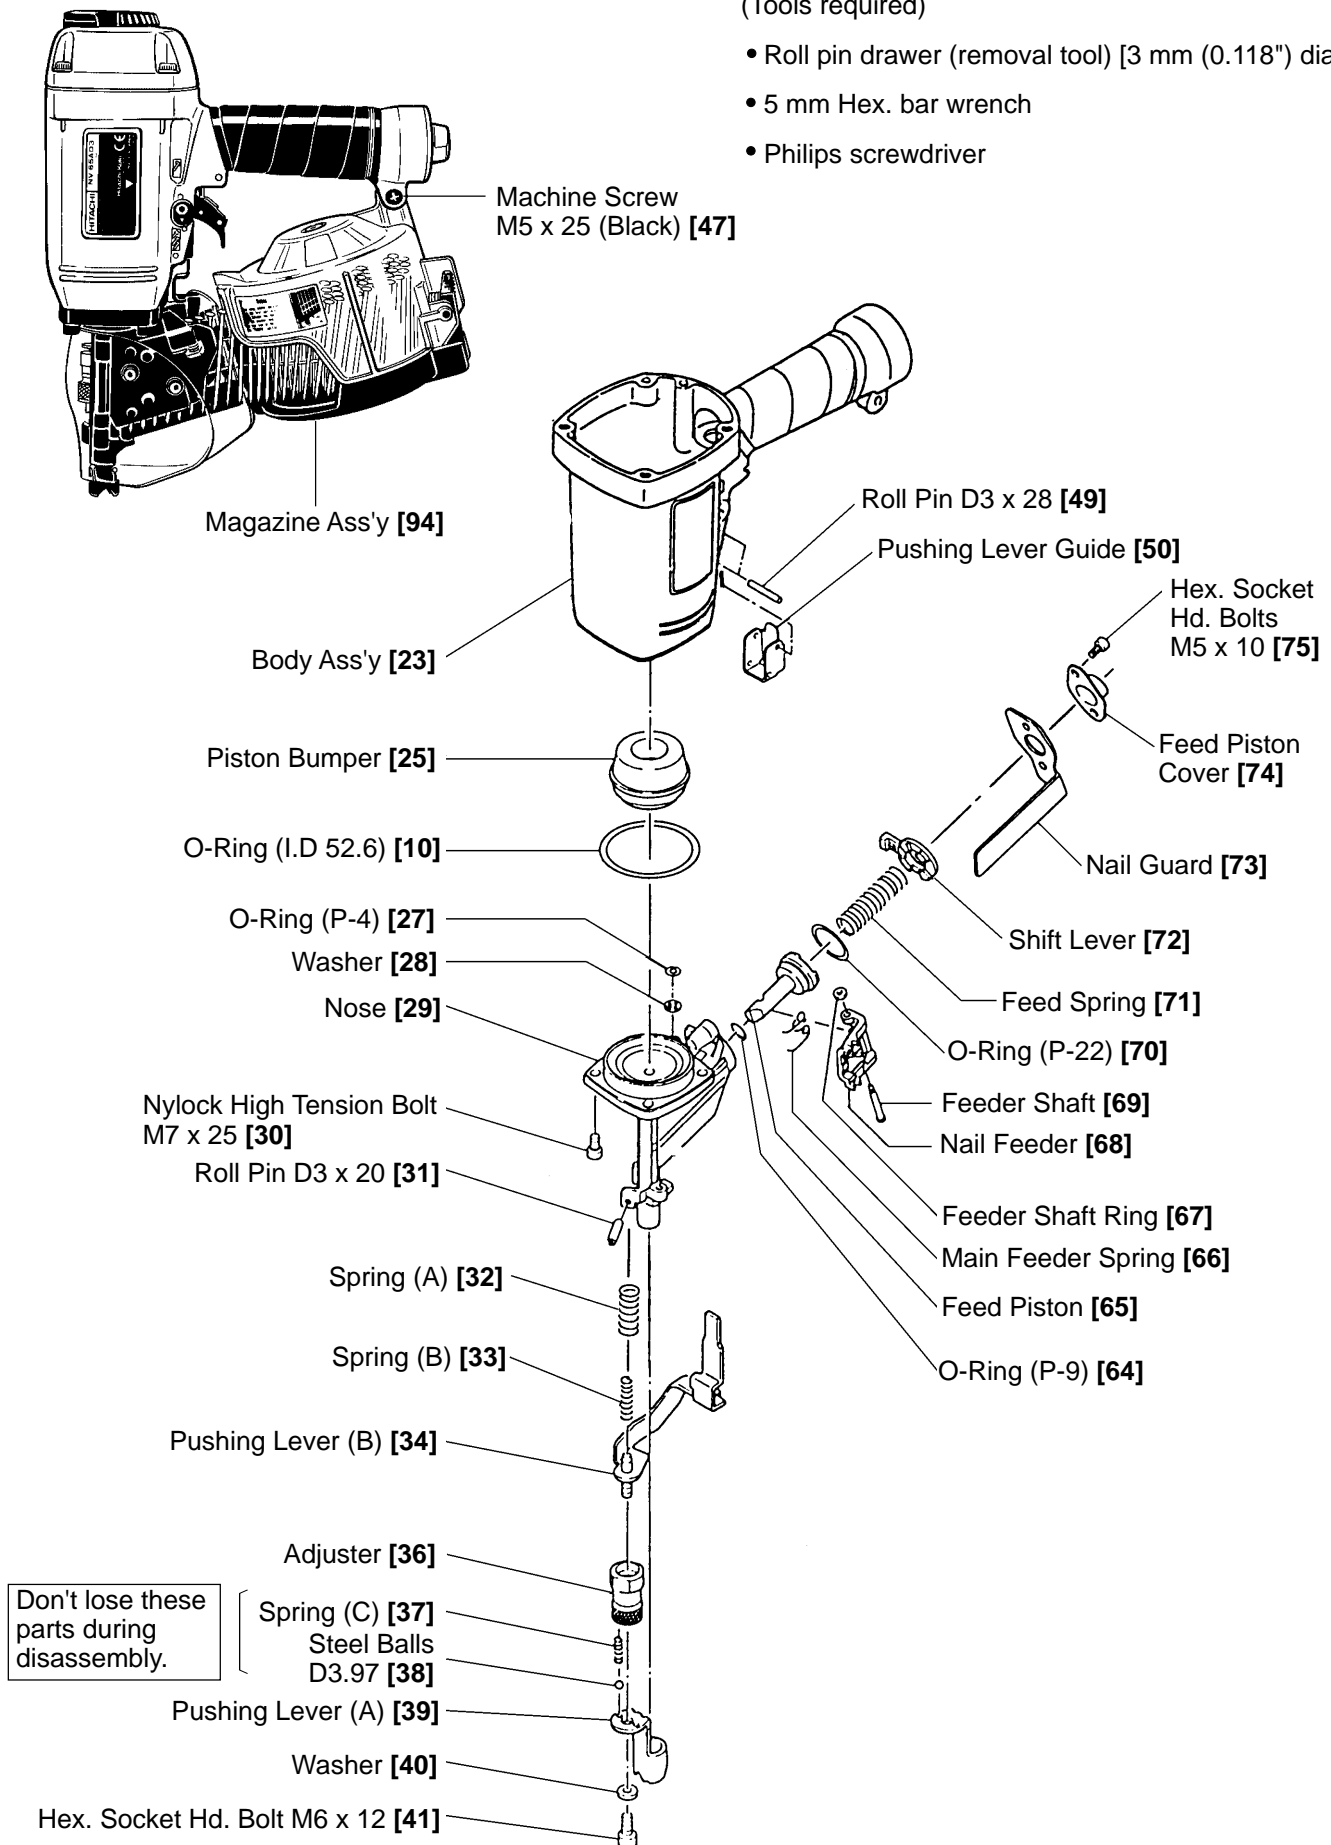

Fig. 11 Disassembly and reassembly of the driving section
(1) Disassembly and reassembly of Pushing Levers (A) [39] and (B) [34], Spring (A) [32], etc. (See Fig. 11)
- Install Spring (C) [37] after applying grease to it.
(2) Disassembly and reassembly of the Nail Feeder [68], the Feed Piston [65], the Nose [29], etc. (See Fig. 11)